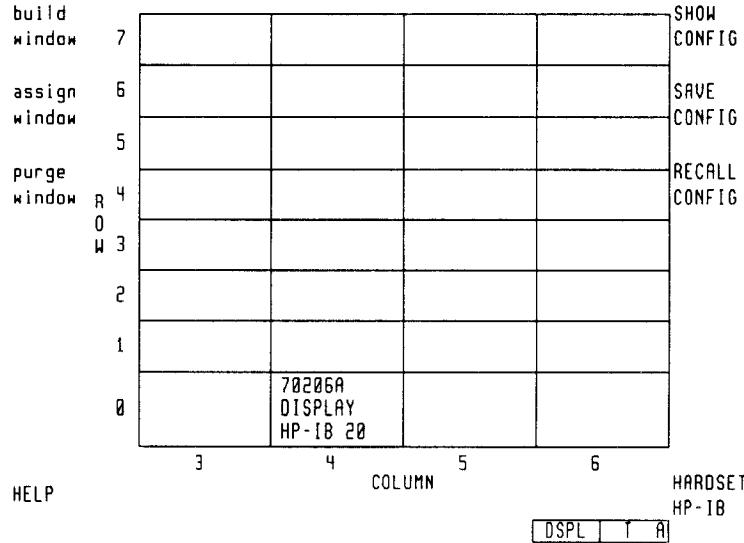

Figure 2-30. Hardset HP-IB
3. Press **HARDSET/SOFTSET HP-IB** so that the display is left in the **HARDSET** mode, as in Figure 2-30.